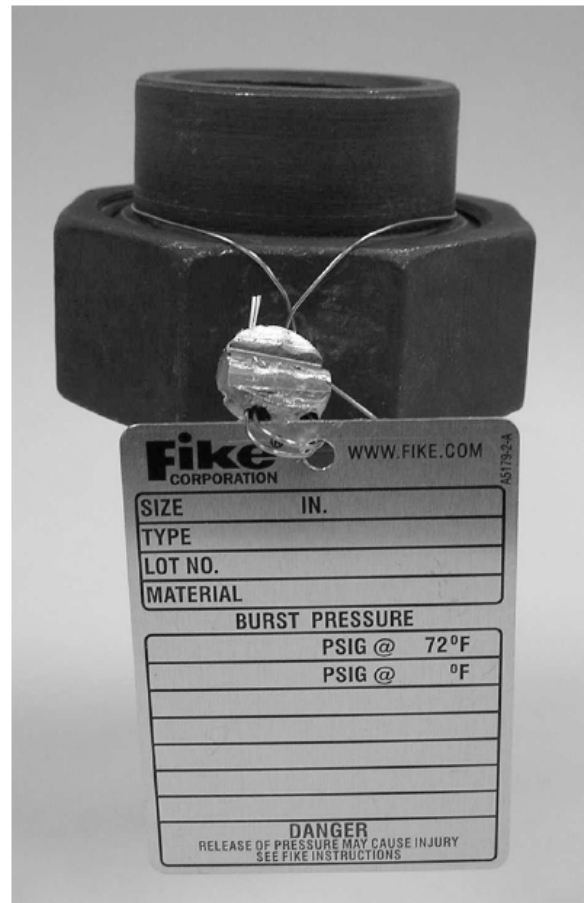

Figure 5 - Union Type Tagging
3. The metal tag shall be attached to the UT assembly in a manner that will prevent changing the rupture disc without breaking the seal. Reference Figure 5 showing the tag attached using a lead shunt and 0.02" SST wire as recommended practice.